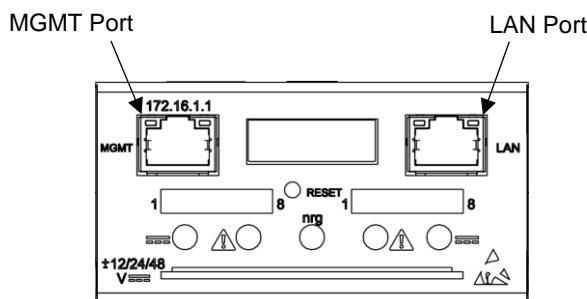

Fig. 2-14: CTRL Panel Connectivity Ports
44. If required, lightly coat antioxidant on lugs and output BATT and RTN terminals and then connect lugs to terminals, as shown in Fig. 2-14. (NEC specifies only one lug and load at each output terminal.)